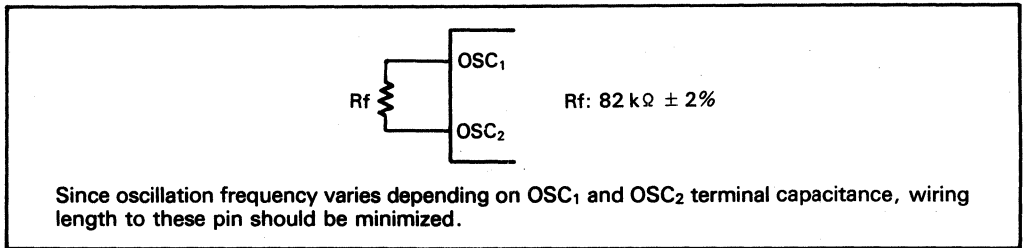

Figure 45 Internal Oscillator, Resistor
8. Internal oscillator operation using oscillation resistor R_f (figure 45).